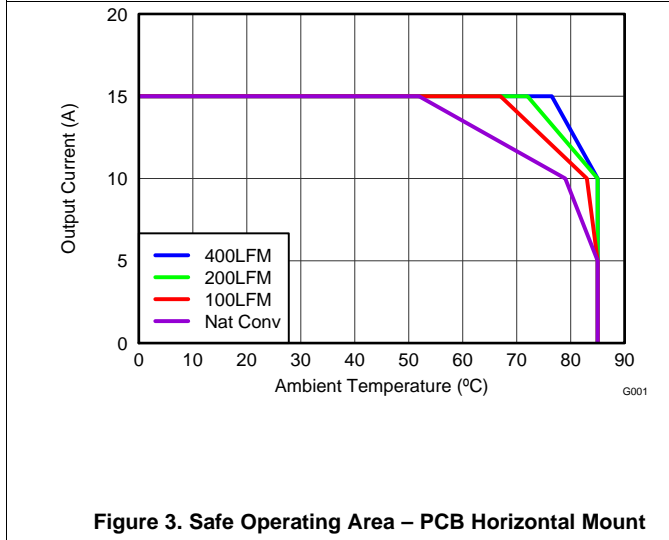
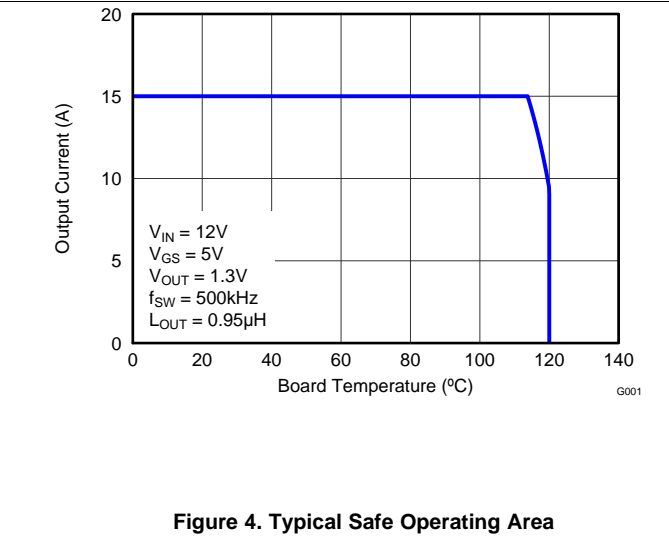

Figure 3. Safe Operating Area – PCB Horizontal Mount
Figure 4. Typical Safe Operating Area
$T_j = 125^{\circ}\text{C}$, unless stated otherwise. For Figure 3 and Figure 4, the Typical Power Block System Characteristic curves are based on measurements made on a PCB design with dimensions of 4 inches (W) x 3.5 inches (L) x 0.062 inch (H) and 6 copper layers of 1 oz. copper thickness. See Application and Implementation for detailed explanation.
$T_J = 125^\circ\text{C}$, unless stated otherwise. For Figure 3 and Figure 4, the Typical Power Block System Characteristic curves are based on measurements made on a PCB design with dimensions of 4 inches (W) x 3.5 inches (L) x 0.062 inch (H) and 6 copper layers of 1 oz. copper thickness. See Application and Implementation for detailed explanation.
The SOA curves in the CSD87381P data sheet provides guidance on the temperature boundaries within an operating system by incorporating the thermal resistance and system power loss. Figure 3 to Figure 4 outline the temperature and airflow conditions required for a given load current. The area under the curve dictates the safe operating area. All the curves are based on measurements made on a PCB design with dimensions of 4 inches (W) × 3.5 inches (L) × 0.062 inch (T) and 6 copper layers of 1 oz. copper thickness.